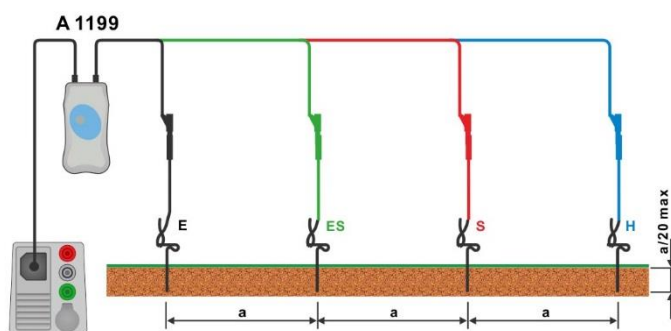

Figure 7.103: Specific earth resistance measurement
- › Connect test leads to earth probes, see **Figure 7.103**.